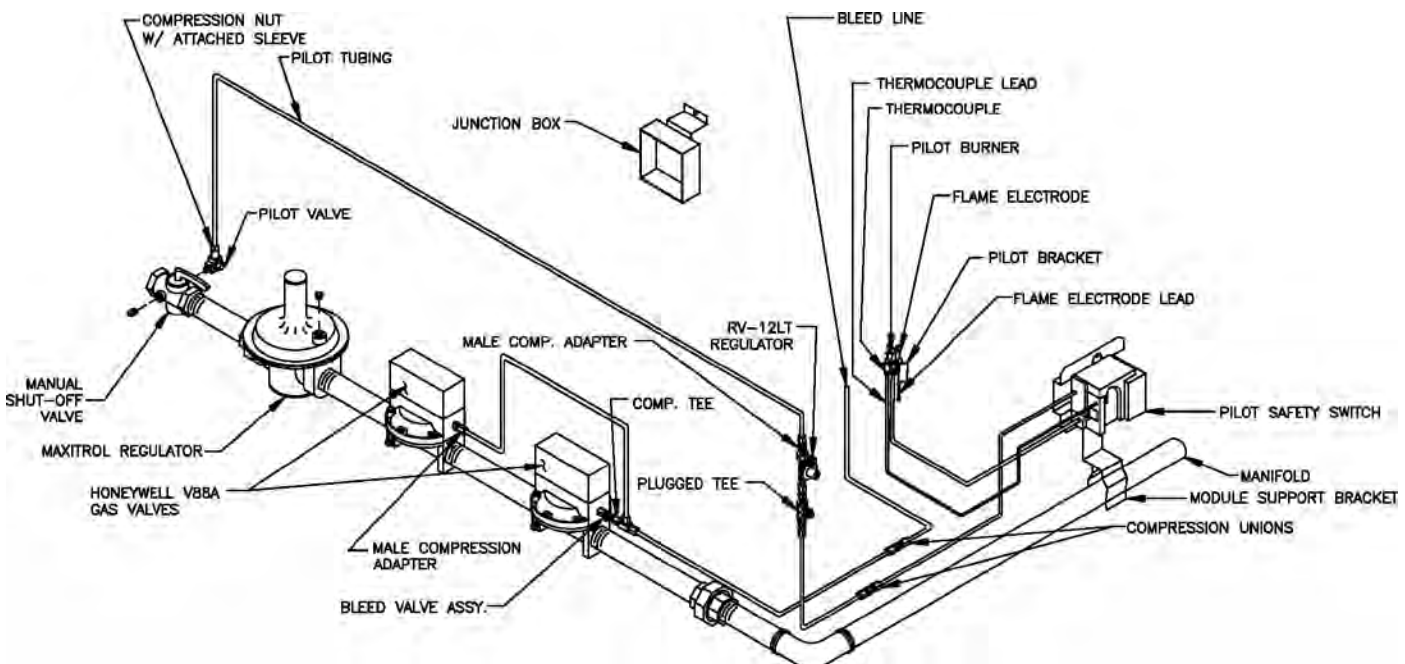

FIG. 36
x 1/2" MS and nuts. Mount junction box to bracket using #8 SMS. Install RV-12LT Regulator, (Packed in Gas Train Carton) and 1/8" tee in the 1/4" OD pilot tubing as shown in Fig. 36. Install 24V/40VA Transformer on J-box.
Using 1/4" OD aluminum tubing, connect the pilot shutoff valve installed in the manual shutoff valve in the gas train, to the inlet of the RV-12LT regulator (packed in Gas Train Carton). Regulator should be above Gas Train and near front of boiler, see Fig. 36. Install 3/8" tee into outlet of regulator (USA boilers) and, using 1/4" OD aluminum tubing, connect outlet of tee to "IN" connection on pilot safety switch, see Fig. 36.
Using 1/4" OD aluminum tubing, connect the outlet of the pilot safety switch to the tubing or fitting connected to the pilot burner, see Fig. 36.
4. **INSTALLATION OF BLEED PIPING** – Using ¼" OD aluminum tubing, install a bleed line on both diaphragm valves, connect together, see Fig. 25 or 26, and run tubing to bleed line protruding from inside base, see Fig. 36.